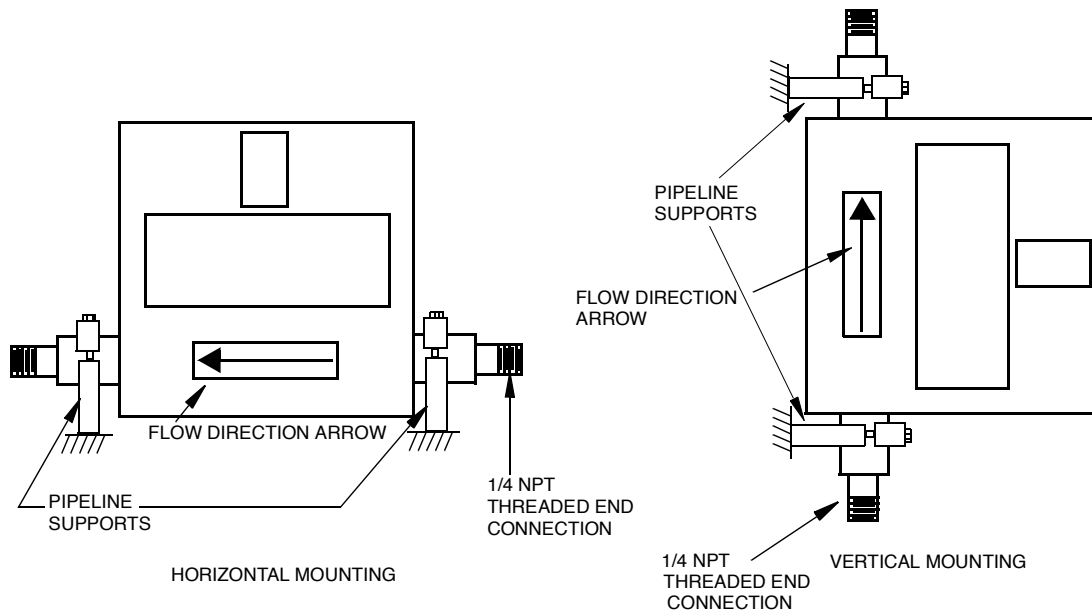

Figure 6. 3 mm (1/8-inch) Flowtube Mounting
**CAUTION:** Flowtube CFS10-02 (1/8-inch) must be mounted with pipeline supports inside of threaded ends, as shown in Figure 6.